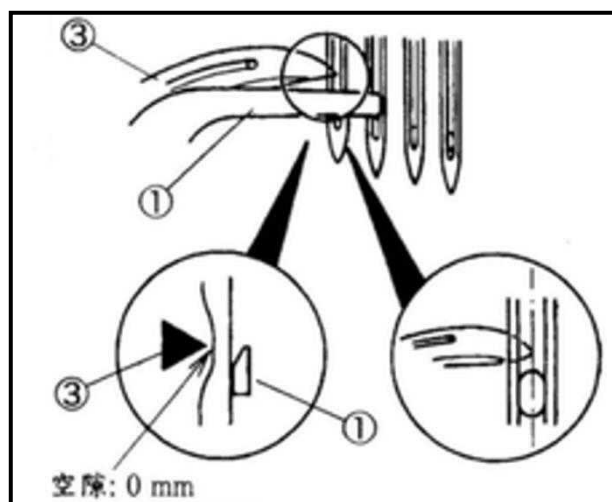

Fig.56
当弯针左移到右时，检查弯针③有无碰到机针的后面，看机针有无左右移动。(Fig.56,57)
Check the looper tip touches the back of the needle and the does not swing to the right when the looper③ moves from the left to the right while rotating the handwheel. (Fig.56,57)